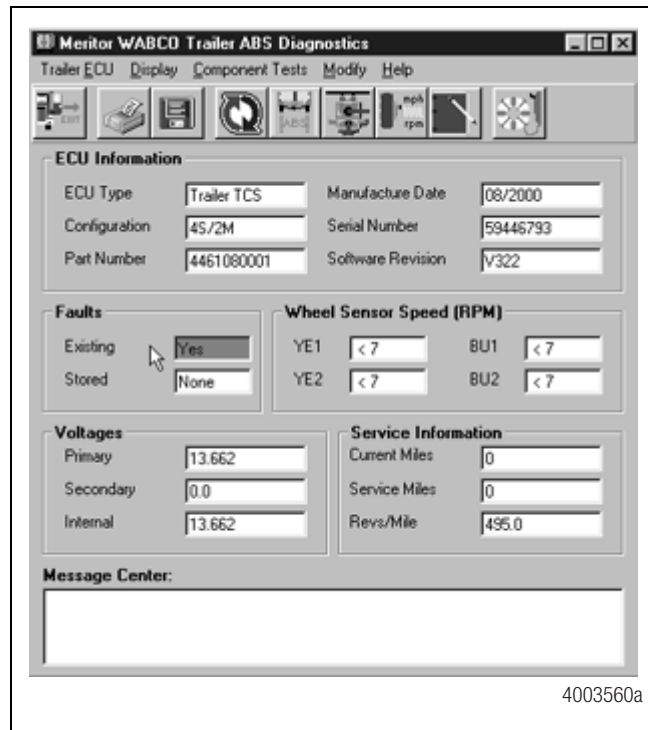

Figure 12
- Apply 12 volts DC to the blue wire (constant). Check the screen for the correct voltage (9.4 to 14 volts). Constant power voltage is displayed in the PRIMARY field. Figure 12.